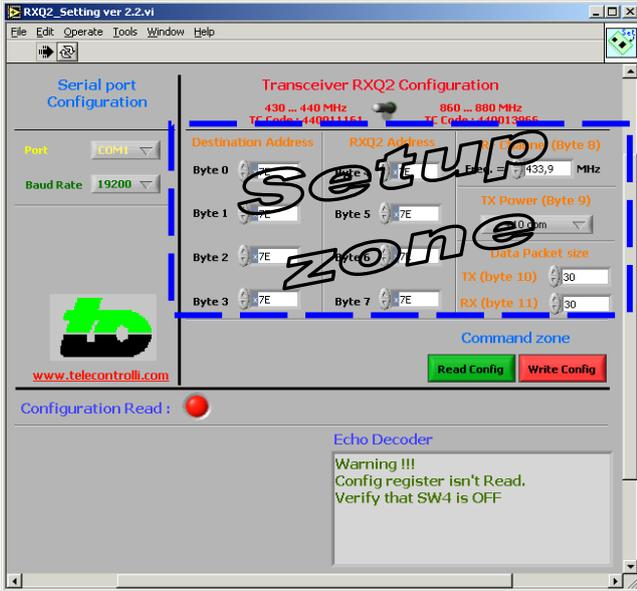
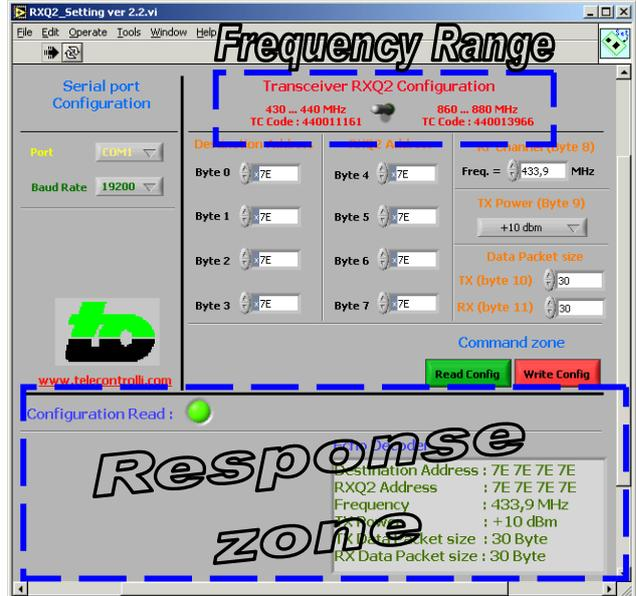

Fig. 1
Fig. 2
- Select, with switch on panel, the frequency range (see fig. 2)
- Set your configuration values by using available controls in "setup zone" (see fig. 1)
- Result is displayed on "Response zone" (see fig. 2)
Figure 1 and figure 2 shows the responses when you click on **“Read Config”** button :